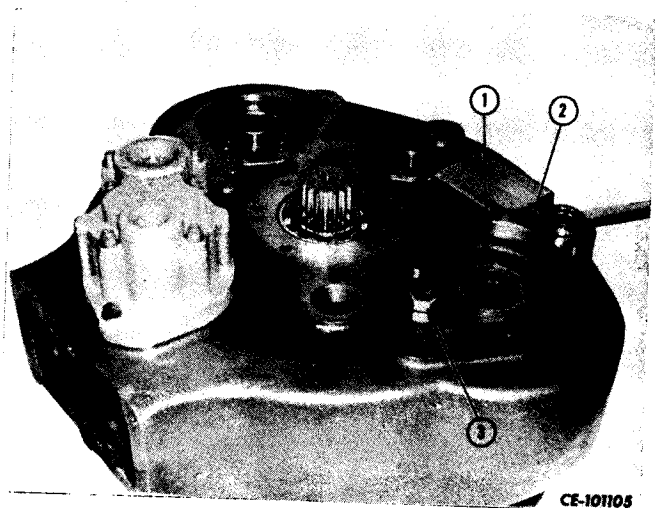

Figure 3-48
Install pump adapter plates (2, Fig. 3-48) using new seals (3, Fig. 3-32) and "O" rings (4), on housing and secure with cap screws (3, Fig. 3-48). Tighten cap screws evenly to properly seat seals (1).